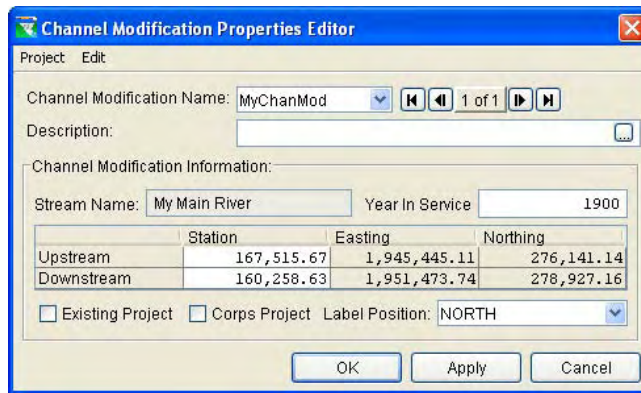

Figure 6.17 Channel Modification Editor
2. Right-click on the Channel Modification and select **Edit Channel Modification**. The **Channel Modification Editor** opens, as shown in Figure 6.17.